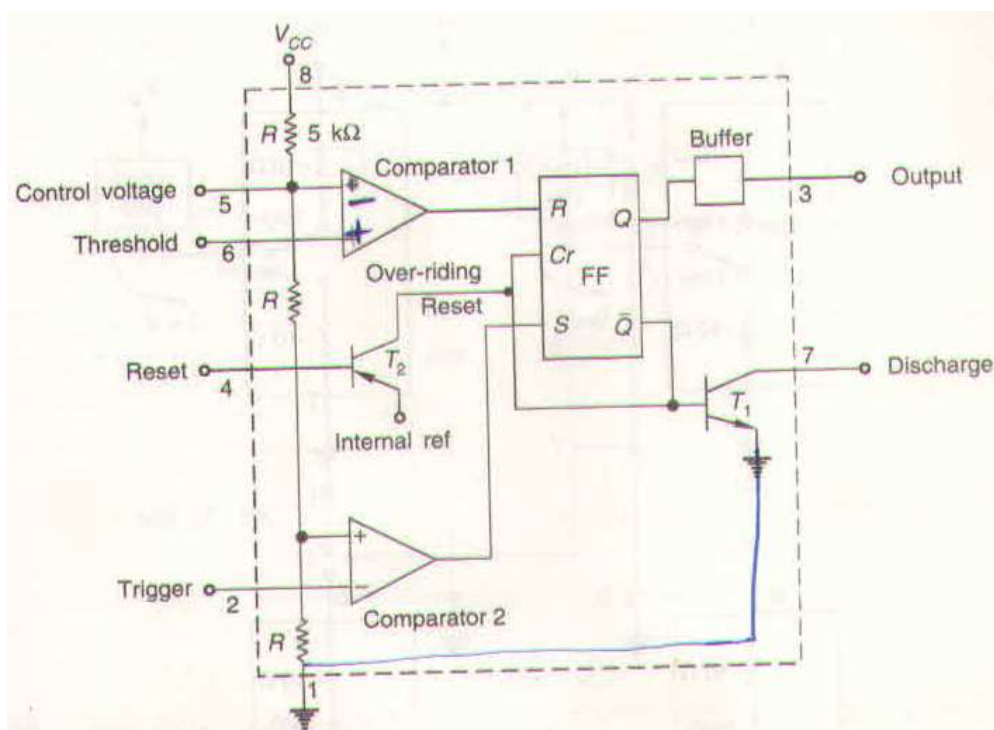
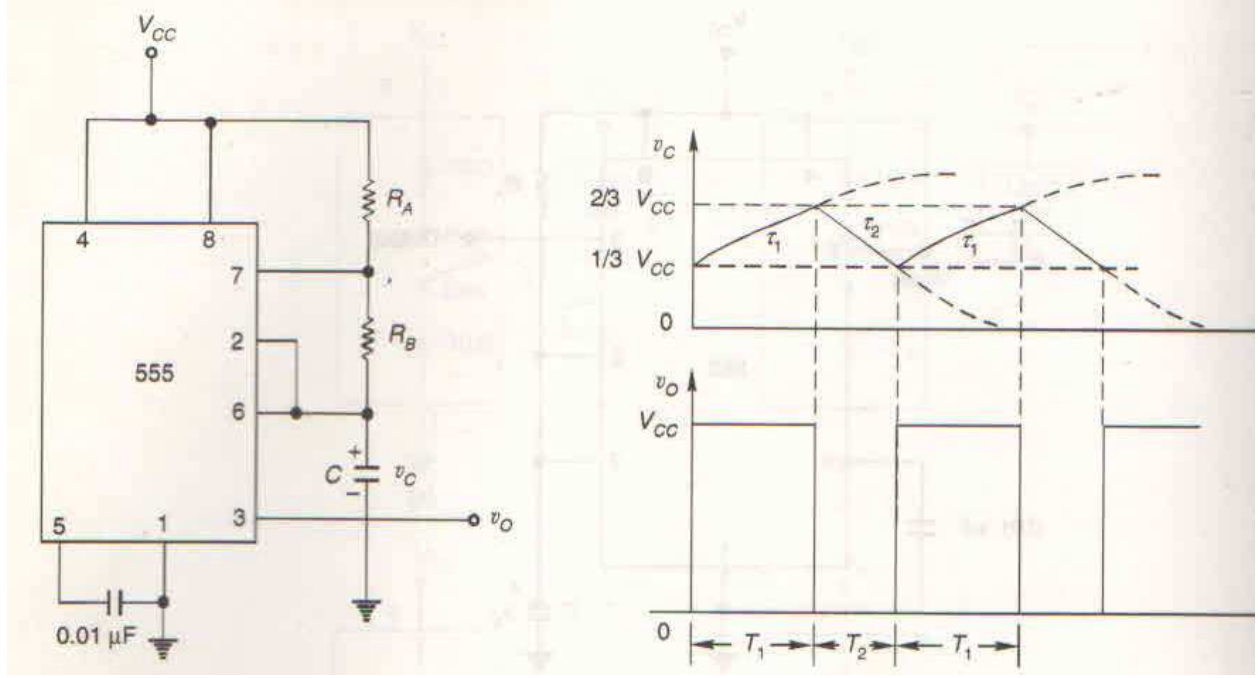
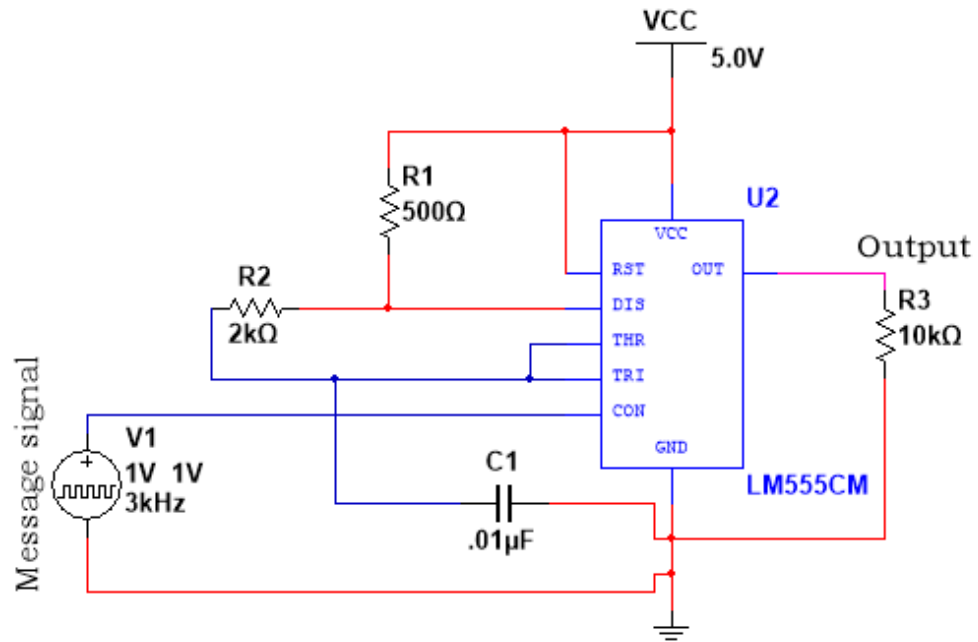
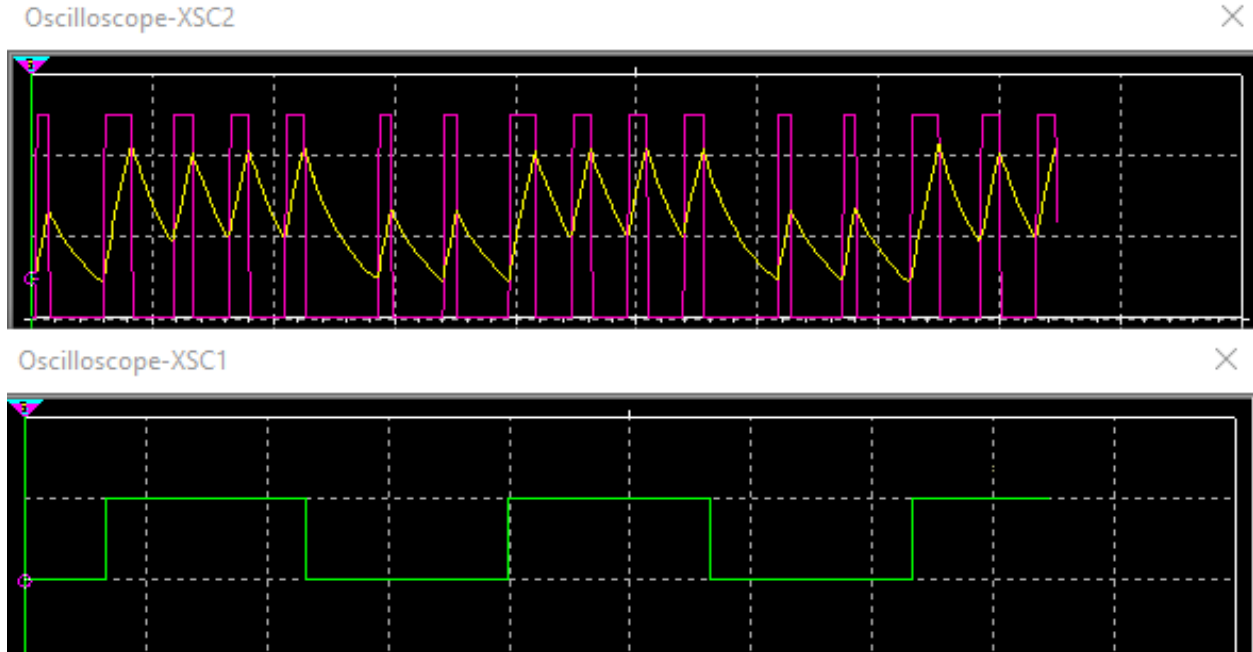

Figure 1: Functional block diagram of 555 timer
Figure 2: An astable multi-vibrator using IC555 and the corresponding waveforms
Figure 4: Generation of FM signals using IC555
Figure 5: The output and capacitor voltage for the IC555-based frequency modulator
Figure 1 shows the functional block diagram of IC555. The control input is applied at PIN 5 and the output is obtained at PIN 3.
Figure 2 shows the circuit of an astable multi-vibrator using IC555. The control input point PIN 5 is connected to a capacitor 0.01uF. The output voltage v_o and the voltage v_C across the capacitor C (connected at PIN 6) are shown in Figure 2. Observe from Figure 1 that the voltage at the negative point of comparator 1 is $\frac{2V_{CC}}{3}$. Since the control point (PIN 5) is connected to a capacitor, the control input voltage will remain at $\frac{2V_{CC}}{3}$. Moreover, the voltage at the positive end of comparator 2 is $\frac{V_{CC}}{3}$. Therefore, the voltage v_C across the capacitor C will lie in the range between $\frac{V_{CC}}{3}$ and $\frac{2V_{CC}}{3}$ as shown in Figure 2. The output v_o will a square pulse waveform with on time T_1 and off-time T_2 . T_1 and T_2 are given by
In order to use IC555 as a frequency modulator, it must be configured as VCO. The message signal should be applied to the control input PIN 5 as shown in Figure 4. Therefore, instead of having a fixed control voltage (i.e. $\frac{2V_{CC}}{3}$), we now have a control signal (message) of varying amplitude. Figure 5 shows typical v_o (in pink) and v_C (in yellow) after applying the square-wave message signal at PIN 5. The message signal is shown in green. Observe that the output is the desired FM signal.
- Configure the IC555 in the astable multi-vibrator mode as shown in Figure 2 with $R_A = 500\Omega$, $R_B = 2k\Omega$, $C = 0.01\mu F$.
- Calculate the carrier frequency f_{free} which is equivalent to the free running frequency of the 555 timer. Use (2) and verify with the observed frequency.
- Now connect IC555 as shown in Figure 4. Apply a message square pulse of frequency 3kHz to PIN 5.
- Adjust the amplitude and the offset of the message signal so that you get the waveforms shown in Figure 5.